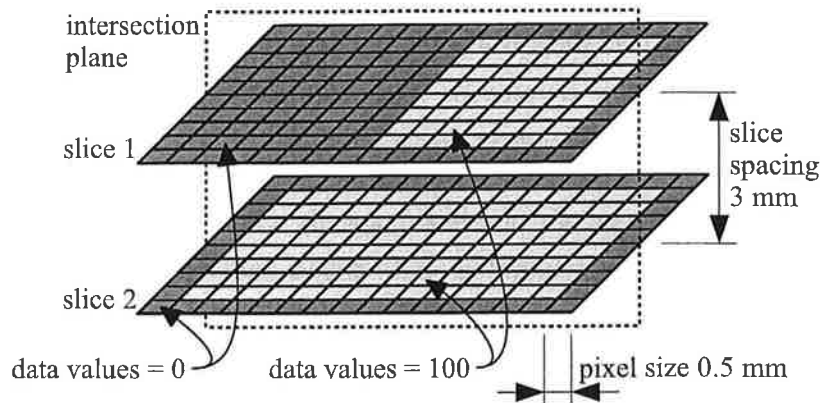

Fig. 3
- (b) An iso-surface at a value of 50 is to be extracted from the two-slice data set in Fig. 3. To this end, marching cubes is applied:
For each case, sketch the intersection of the resulting iso-surface with the orthogonal plane shown dashed in Fig. 3. Comment on the size and shape of the triangles over each part of the surface in the vicinity of the intersection. [40%]
- (d) In practice, sharp data discontinuities as in Fig. 3 are blurred by the imaging process. How would such blurring affect your answers to (b)(i) and (b)(iii)? [20%]